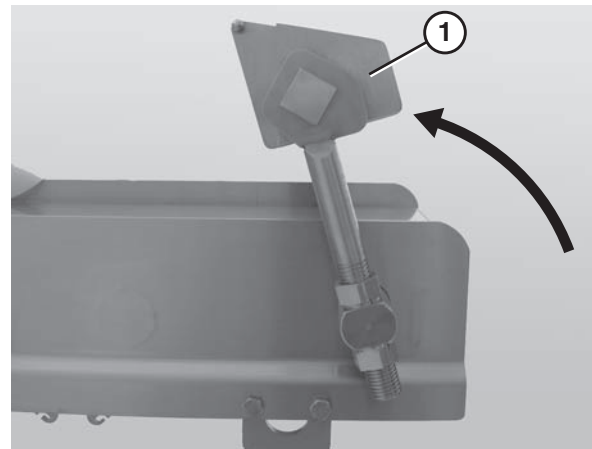

Figure 14
1. Place the idler tail (Figure 14, item 1) in the up position.